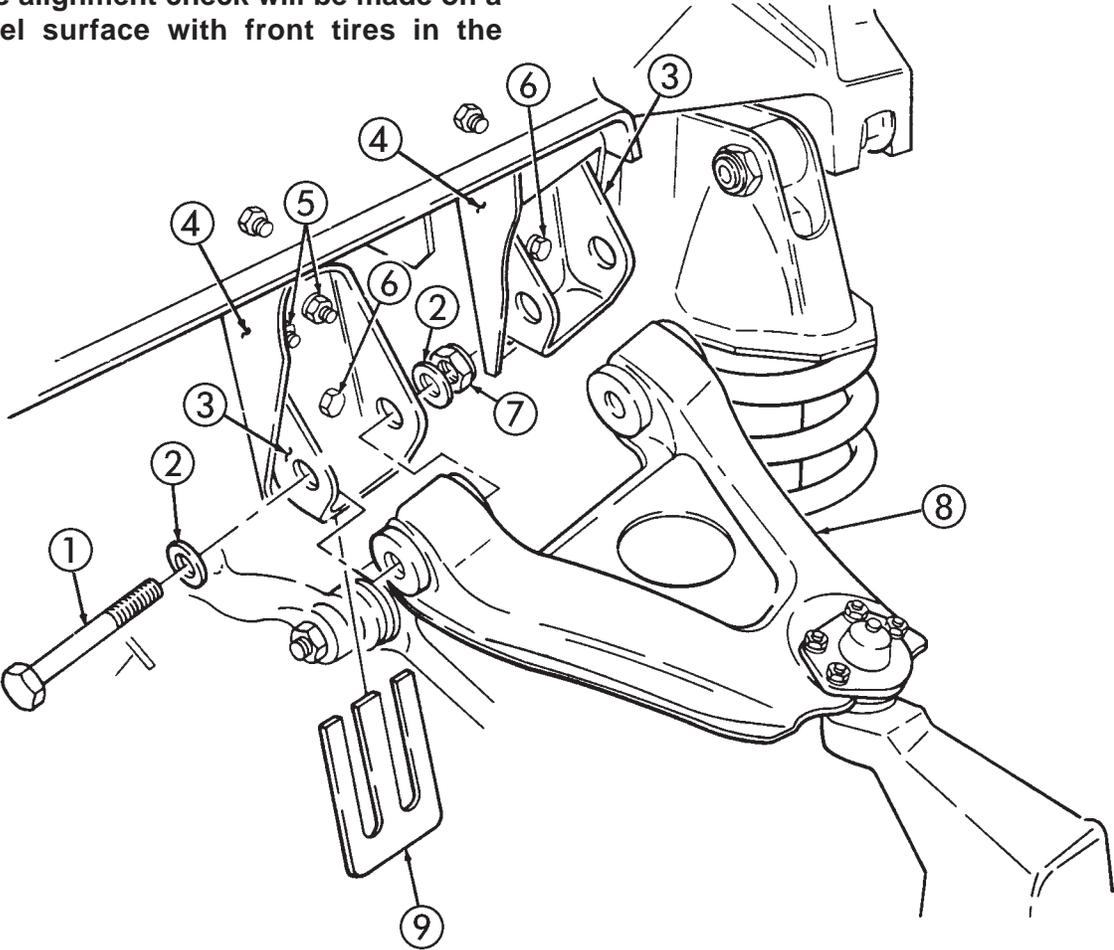

Figure 7-14 . Caster and Camber Adjustment.
D. CASTER & CAMBER CHECK AND ADJUSTMENT PROCEDURES (Figure 7-14)